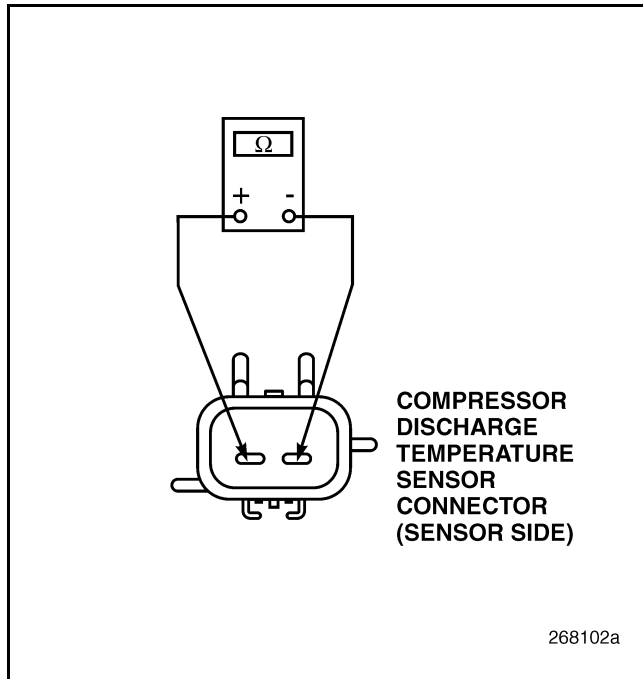

Figure 815
3. Measure the resistance across the pins of the CDT Sensor with the air temperature between 50° and 180°F (10° and 82°C) (see Figure 815).